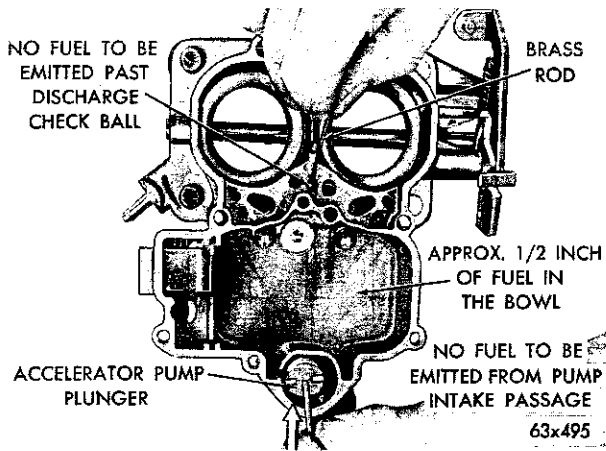

Fig. 14—Testing the Accelerator Pump
(2) Using a small clean brass rod, hold the discharge check ball firmly down on its seat. Raise the pump plunger and press downward. No fuel should be emitted from either intake or discharge passage, as shown in Figure 14.
(3) If any fuel does emit from either the intake or discharge passages, it indicates the presence of dirt or an imperfect seat. The passages should be recleaned and then thoroughly blown out with compressed air. Examine the ball seat for signs of damage that would not allow the ball to seat properly.
(4) Reinstall the check ball and test again. If still leaking, place a piece of drill rod down on the check ball and rap sharply with a hammer. Remove the old check ball and install a new one. Then retest. (This operation forms a new ball seat in the carburetor casting.)